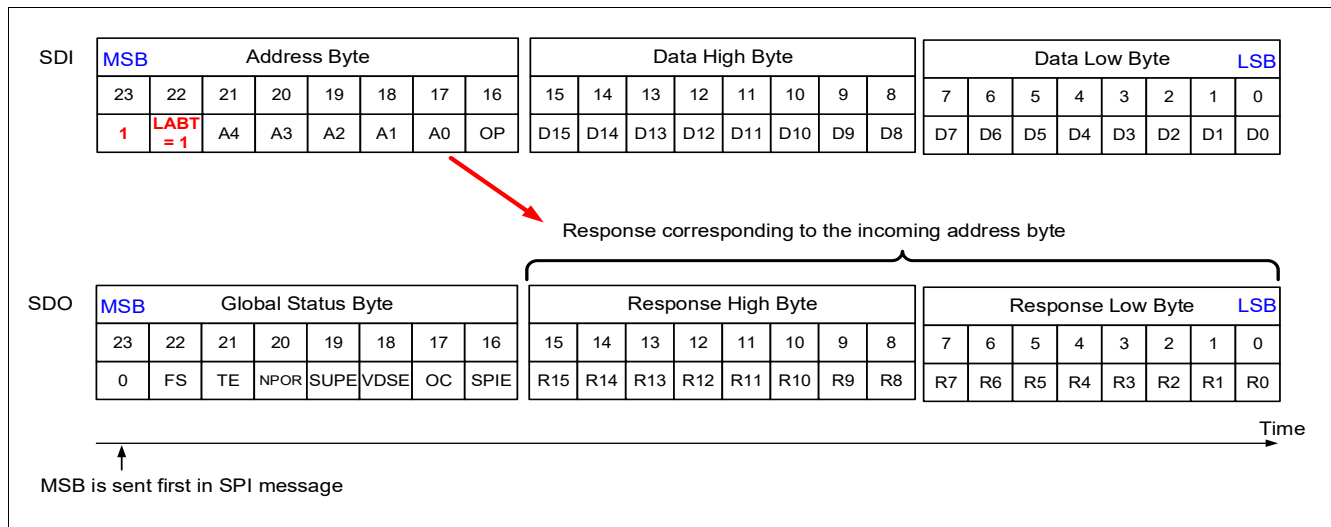

Figure 43 In-frame response with individual slave selection
The address byte specifies (see Figure 43):
1) OP bit is the least significant bit of the address byte, see Figure 43